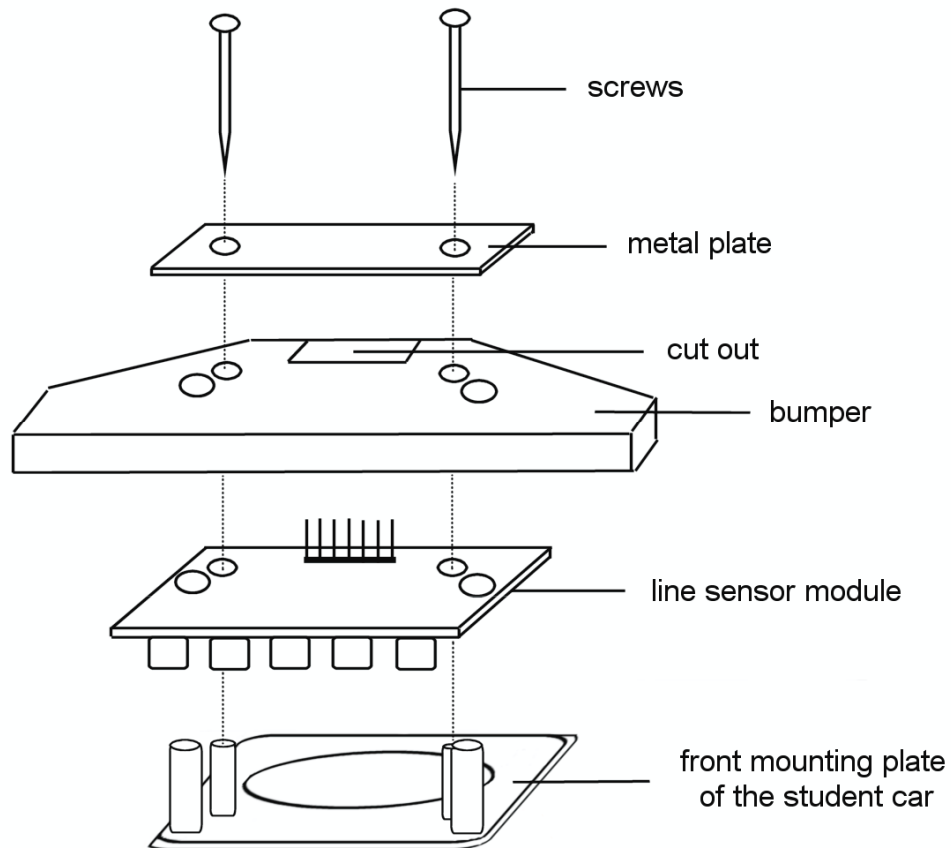

Figure 8: Installation instruction of IR line sensor
6. Cut out a rectangle (24mm x 8mm) of the bumper for the connectors (see figure 8)
7. Install the IR line sensor (figure 8)